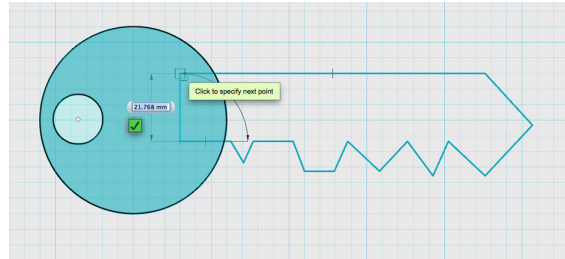

Figure 4-131 Teeth of a key created with the Polyline tool
3. Use the Polyline tool to sketch the teeth of the key. Make sure to close the sketch (Figure 4-131).